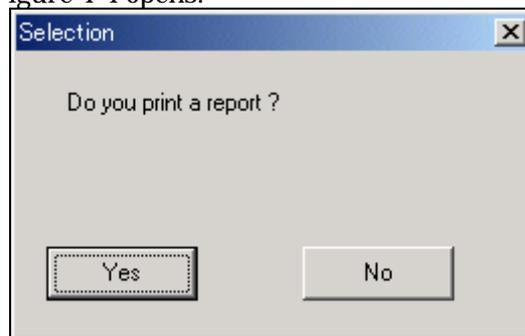

Figure 4-4. Print dialog box
6. The dialog box in Figure 4-4 opens.